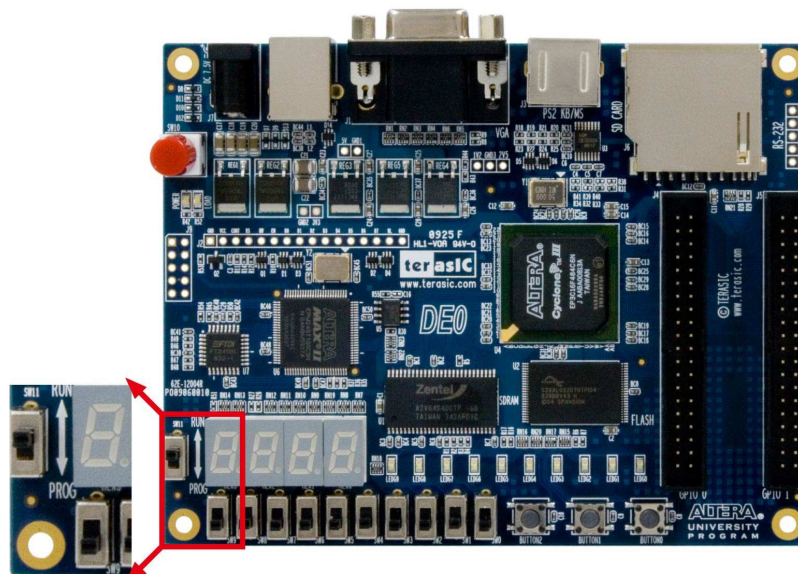

Figure 4.4. The RUN/PROG switch(SW2) is set in AS mode
- Configure the JTAG programming circuit by setting the RUN/PROG switch (see Figure 4.4) to the PROG position.